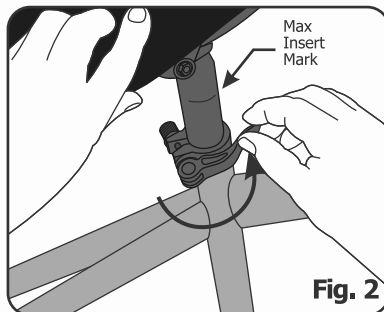

Fig. 2
Attention! Always insert seat post into bicycle frame above the **minimum mark** and below the **maximum mark**, see **Fig. 2**. Incorrect seat post insertion outside of maximum - minimum marks will cause bicycle damage or injury.
2. Hold the saddle aligned in the forward position at the desired seat height. Close quick release counter clockwise see (Fig. 2).